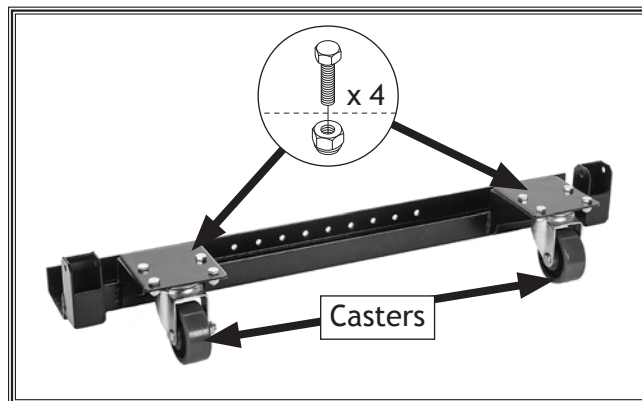

Figure 5. Swivel casters attached to leg support channel bracket.
5. Attach swivel casters to each side of leg support channel bracket using (8) M8-1.25 x 16 hex bolts and (8) M8-1.25 lock nuts (see Figure 5).